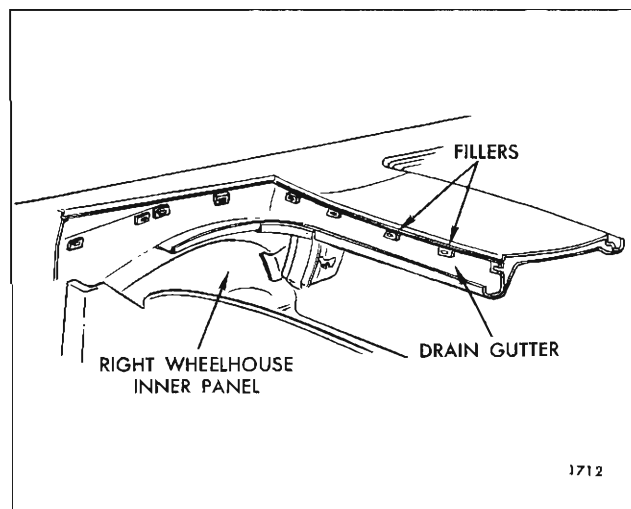

Fig. 2-I-44 — Checking Trim Stick Fillers
8. Tack nylon webbing to rear trim stick. Lower rear edge of webbing should be even with corner of rear trim stick (See Fig. 2I41).
9. Inspect rubber trim stick fillers cemented to body below pinchweld. Re-cement, if necessary, (Fig. 2I44).